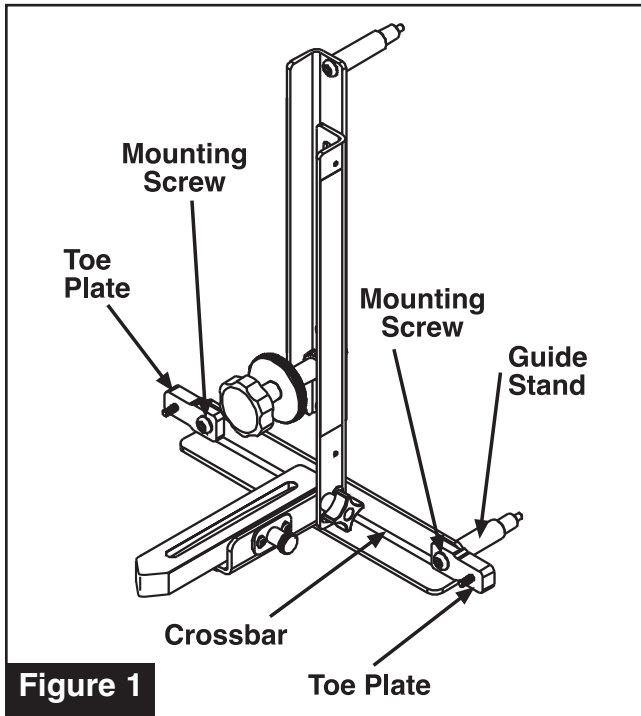

Figure 1
2. Position the toe plates on the lower crossbar as shown in Figure 1, with the step in the toe plate against the end of the crossbar. Using the mounting screws provided in the kit, attach the toe plates and guide studs to the lower crossbar, and tighten the mounting screws securely. *Note: The use of a small amount of LOCTITE on the threads of the mounting screws is recommended.*